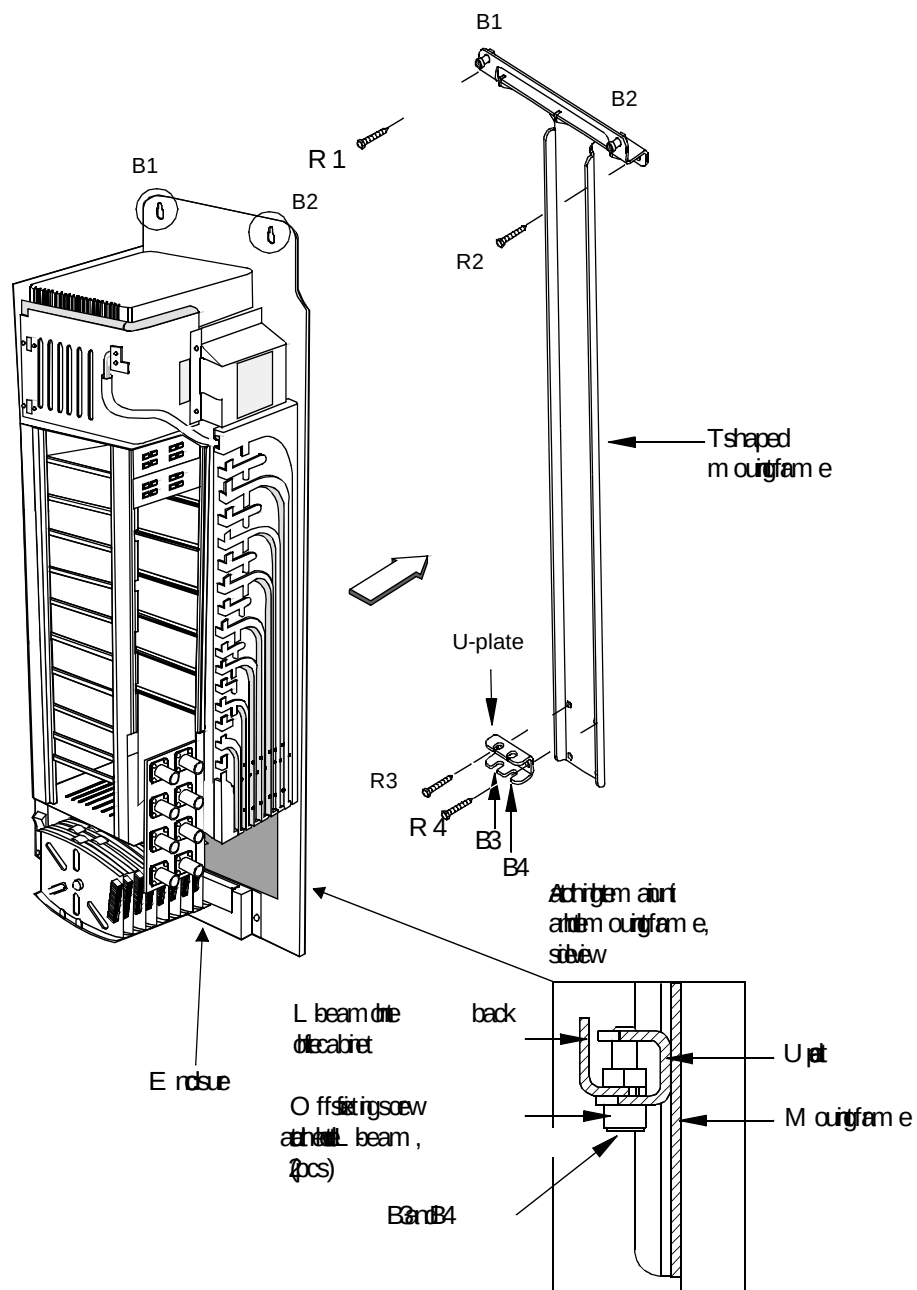

Figure 4. Mounting unit
9. Position the L-beam on the back of the MU into the U-plate (Figure 4).